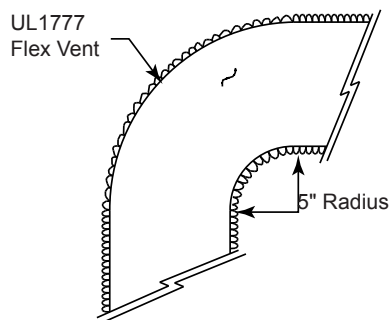

Figure 2 Minimum Radius for Flex Vent Section
3. Do not allow the flexible vent to bend in radius tighter than 5" (127 mm). *Figure 2*